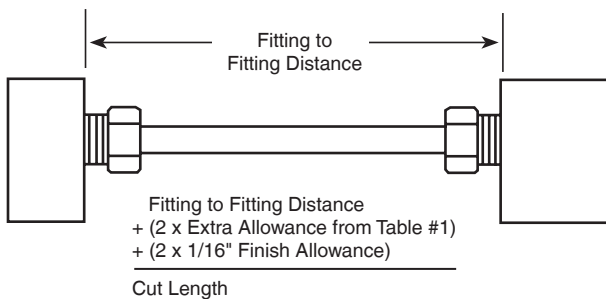

Figure 2
- 3.2 Tubing should be measured accurately and cut to length. Measure the distance from fitting to fitting. See Table #1 for an engagement (assembly) allowance to include in the cut length. Also an additional 1/16" finish allowance is required per end to square up tube ends. The total cut length will be the sum of the fitting to fitting distance, the engagement allowance and the finish allowances see (Figure 2).